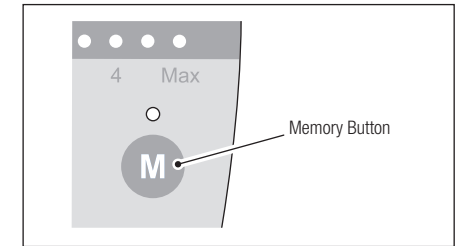

Fig. 21
- 2) Push the Memory Button for about 2 seconds or more, the Memory Light will illuminate and the Control Unit will produce a beep. The memory is set. (Fig. 21)